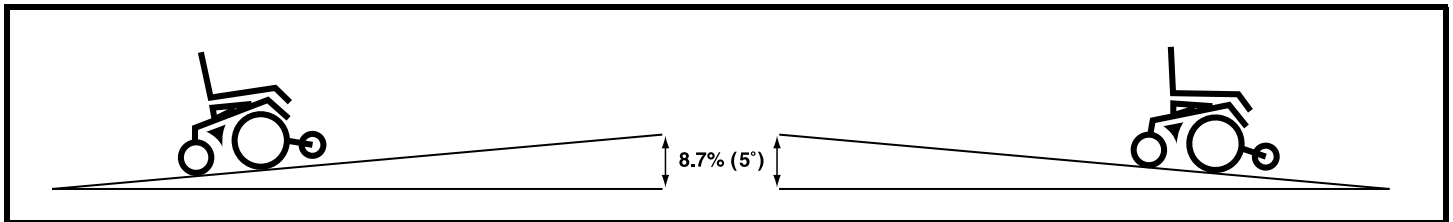

Figure 1. Maximum Safe Angle (Ascending and Descending)
**WARNING!** Even though your power chair is capable of climbing slopes greater than those illustrated in figure 1, do not, under any circumstances, exceed the incline guidelines or any other specifications presented in this manual. Doing so could cause instability in your power chair.
Pride recommends that the maximum slope of an incline you attempt to safely ascend or descend on your power chair does not exceed 8.7% (5°). See figure 1.